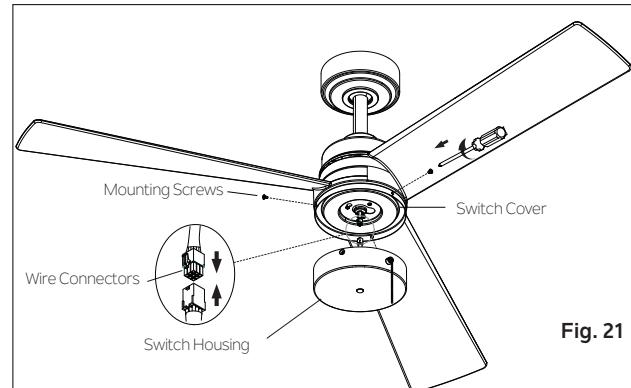

Fig. 21
Step 2. Raise the switch housing close to the fan, and push the square wire connectors together (one from the fan and one from the switch housing). (**Fig.21**)
Step 3. Carefully push all the wires into the switch housing. Attach the switch housing to the switch cover with the mounting screws that were removed in Step 1. Make sure each screw is tight. (**Fig. 21**)